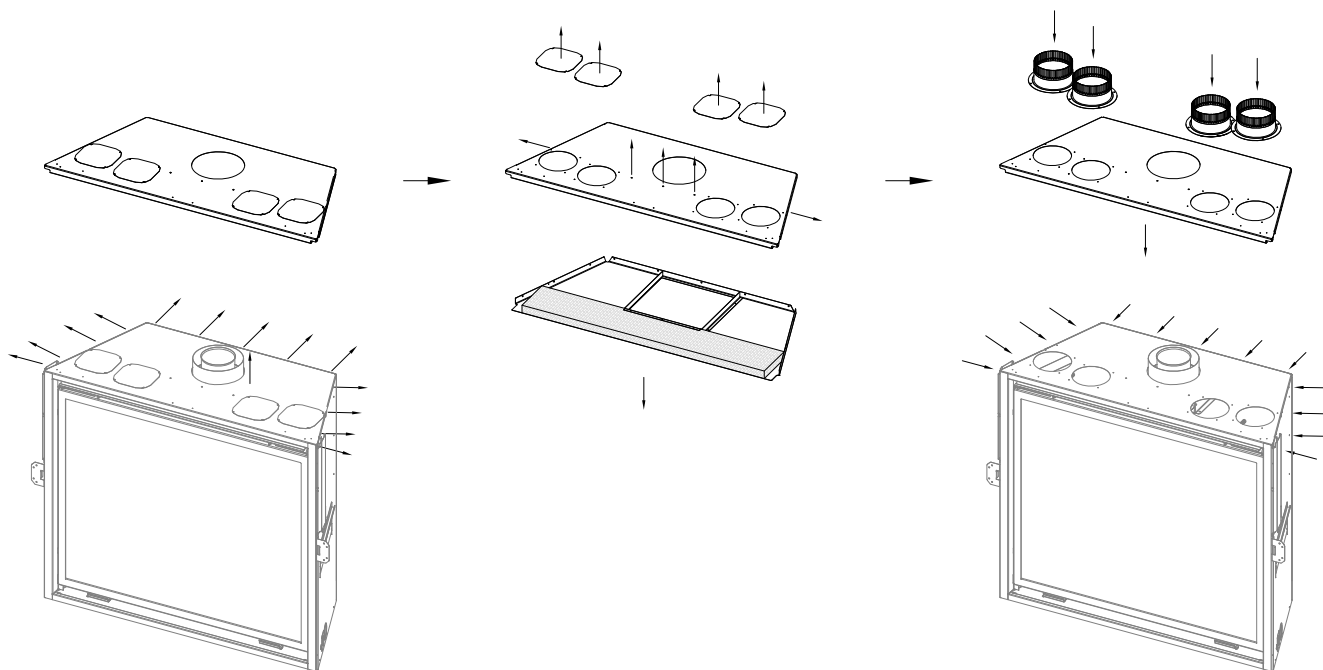
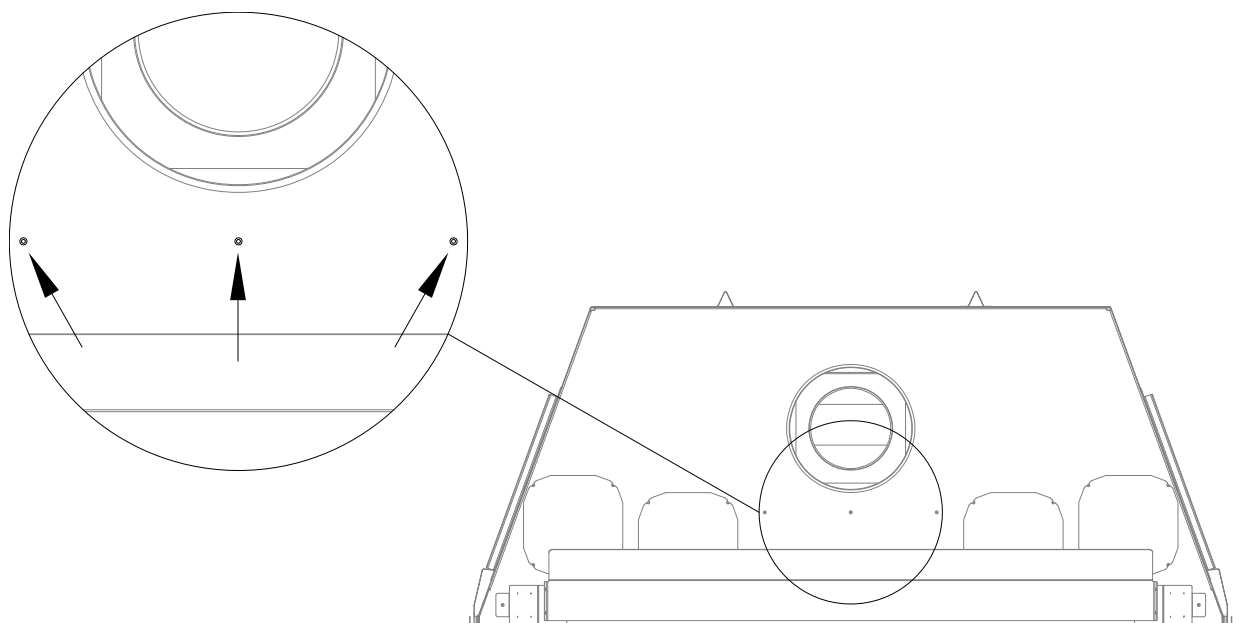

Figure 4.1 - Insulation and Cover Plate Removal
Figure 4.2 - Screws Near Exhaust Stack
- The appliance convection plates and insulation must be removed for Komfort Zone Kit installations, as shown in FIGURE 4.1 & Figure 4.2.
1. Remove the (13) sheet metal screws that secure the top outer shell assembly. Pull this assembly straight up around the exhaust stack to remove it from the appliance. See the first image in Figure 4.1.
2. Remove the (4) cover plates where each cover plate is secured with (4) sheet metal screws. See the second image in Figure 4.1. Discard these cover plates.
3. Remove (3) sheet metal screws from the top of the assembly (see close up in Figure 4.2) and (2) sheet metal screws on the side of the assembly (one screw on each side shown in the second image of Figure 4.1). You are now able to separate the two sections of the top outer shell assembly. Remove and discard both the insulation and the bottom section of the top assembly. Additionally discard the (4) cover plates shown in the second image of Figure 4.1.
4. Reinstall the top outer shell piece on the appliance with the previously removed (13) sheet metal screws.